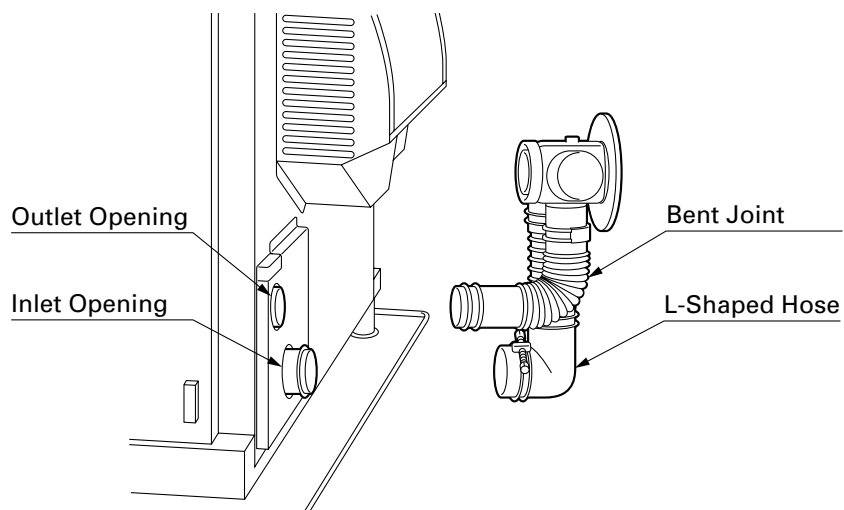

Fig. 11
8. Move the heater into position. Connect the bent joint to the exhaust outlet opening (upper opening) and attach the L-shaped hose to the intake inlet opening. Make sure all connections are tight (See Fig. 11).